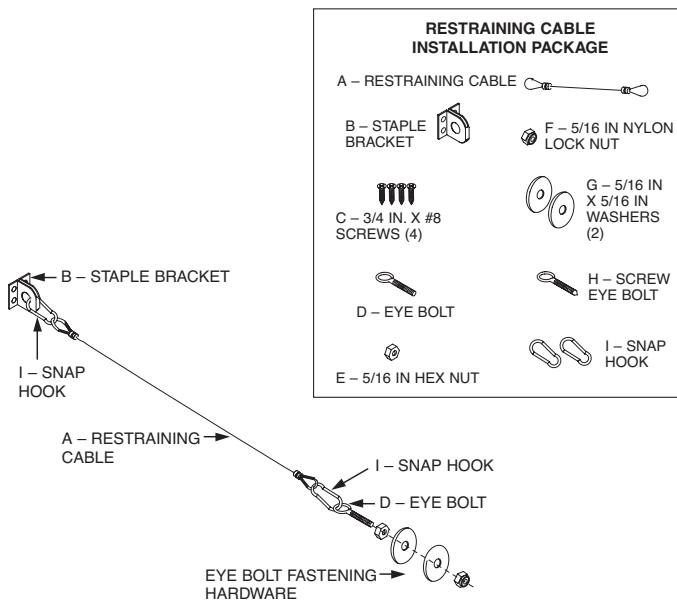

FIGURE 20
7. Attach one of the snap hooks (included in the Restraining Cable package) on the end of the Restraining Cable to the wall bracket and the other snap hook to the eye-bolt (See Figure 20). After snap-hooking the assembly, seal the Restraining Cable Loops to the wall bracketry and appliance connection hardware with ANSUL Lead Wire Seal, Part No. 197.